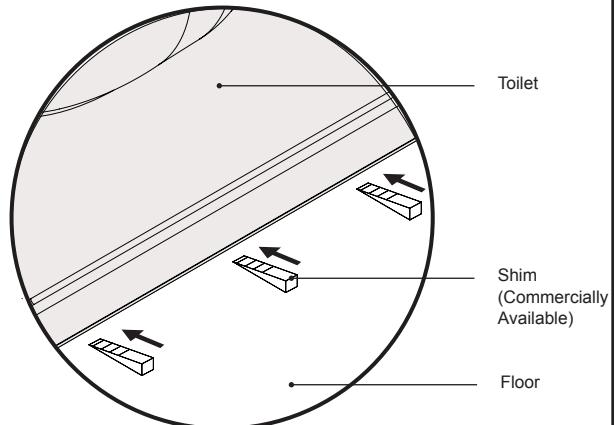
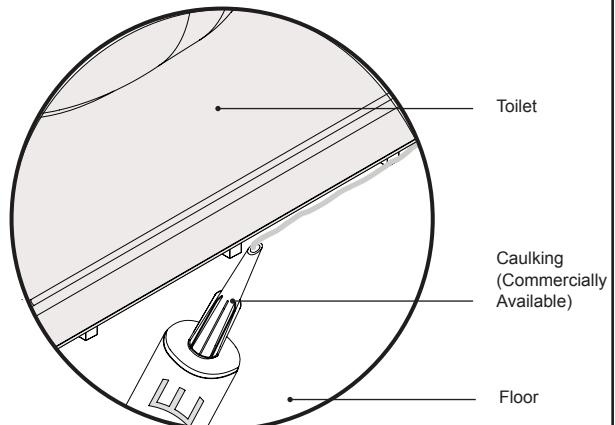

Figure 13
Figure 14
- ① Loosen the bowl nut.
- ② Determine which side of the toilet has more movement.
- ③ Slide a shim between the toilet and the floor. Use a hammer to gently force into place (Figure 13).
- ④ Level the toilet again. If the toilet is level, retighten the bowl nuts.
- ⑤ Seal the space between the floor and the toilet using silicone caulk. Let cure for 24 hours before using the toilet (Figure 14).